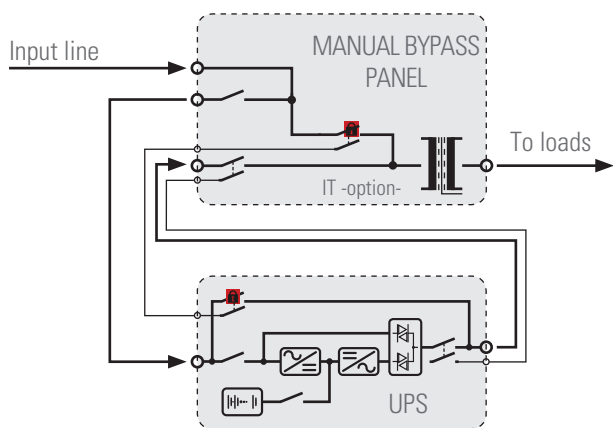

Fig. 1. Standard manual bypass connection with the UPS.
- Standard or basic (Fig. 1). With common input for the UPS feeding (rectifier-PFC) and the static bypass line.